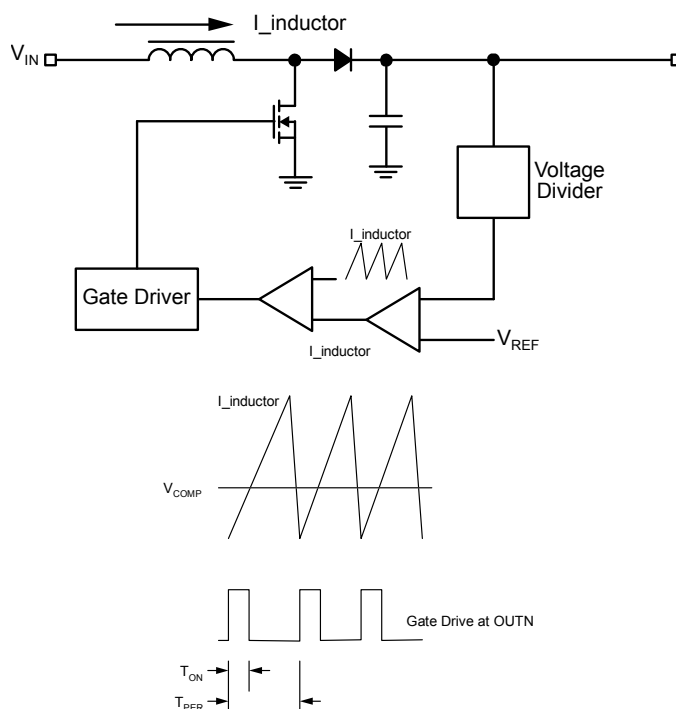

Figure 3. PWM Control Loop
The MIC2196 uses current mode control to improve output regulation and simplify compensation of the control loop. Current mode control senses both the output voltage (outer loop) and the inductor current (inner loop). It uses the inductor current and output voltage to determine the duty cycle (D) of the buck converter. Sampling the inductor current effectively removes the inductor from the control loop, which simplifies compensation. A simplified current mode control diagram is shown in Figure 3.